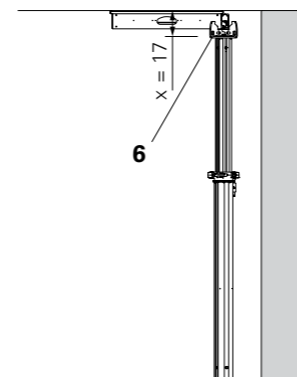

Fig. A2.07
1. Adjust the extension lengths of the props. Clear room height minus dimension  $x$ . (Fig. A2.07). Take into consideration the different overall heights of the main beams: Main Beam SLT 225 = 24 cm / Main Beam SLT 150 = 19 cm